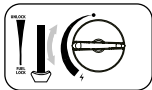

Fig. 5
7. Adjust the wheel to the desired position (fig. 5). Never place the cartridge lever (6) in the "UNLOCK" position during use.